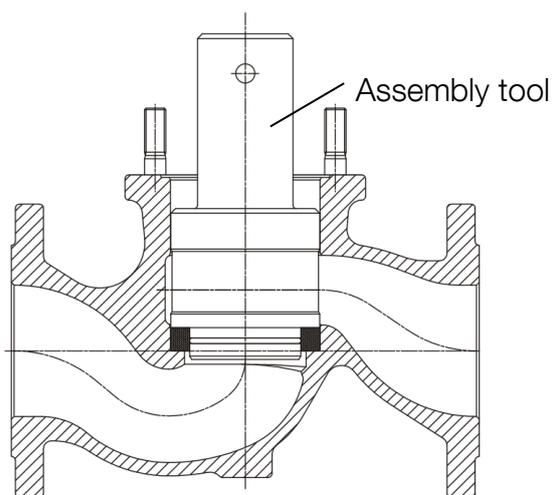
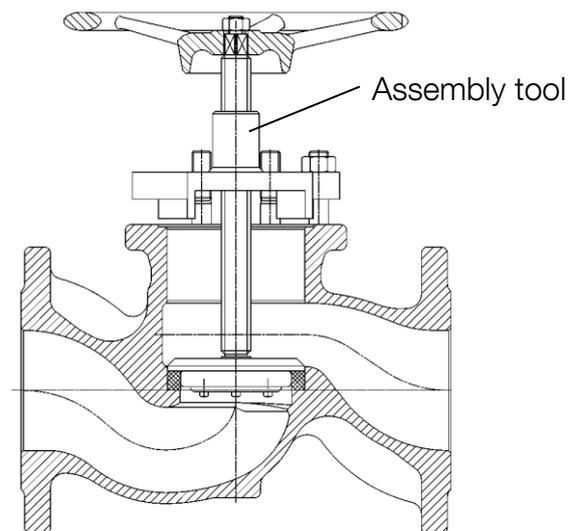

Figure 4
Figure 5
- » Installation of the lower valve ring into the body by means of KX-GT assembly tool. Do not use any grease or lubricant (DN 65/DN 80/DN 100 see Fig. 4, DN 125/DN 150 see Fig. 5)
- » Installation of the new lower valve ring into the body by means of KX-GT assembly tool. Do not use any grease or lubricant ((DN 65 / DN 80 / DN 100 see Fig. 4, DN 125 / DN 150 / DN 200 see Fig. 5)